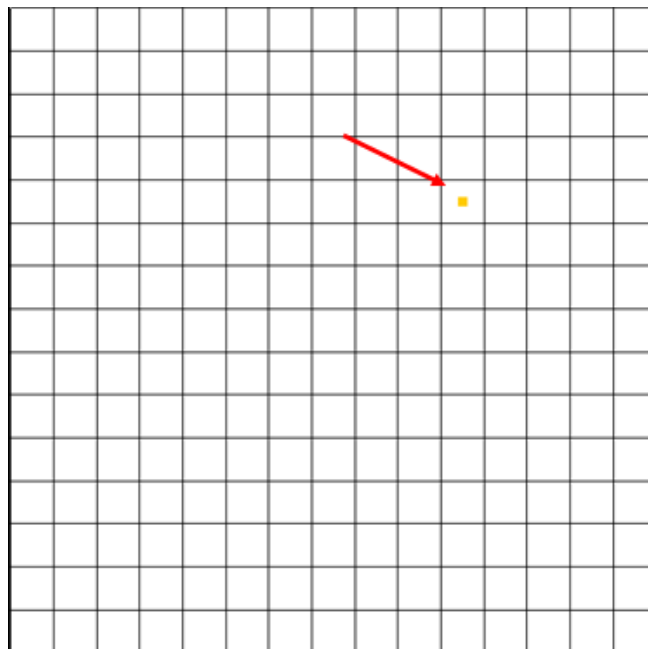

Figure 9 Location of the single well in layer 3
2. Using the **Select Cells**  tool, select the cell shown in Figure 9 (indicated by red arrow). The coordinates of the well are "IJK: 5, 11, 3".